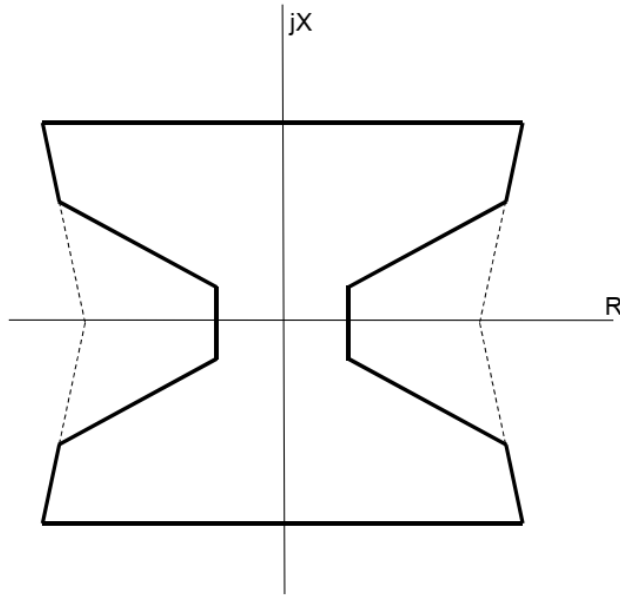

Figure 1-3 The polygon characteristics of the distance protection function Zones 2-5 with “NonDirctional” setting
- “NonDirectional” (the extended polygon is according to Figure 1-3),